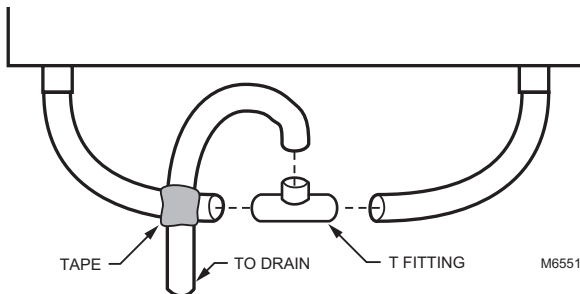

Fig. 10. Installing P-trap.
3. Connect the drain line to the center leg and tape it in place to prevent any kinks. See Fig. 10.